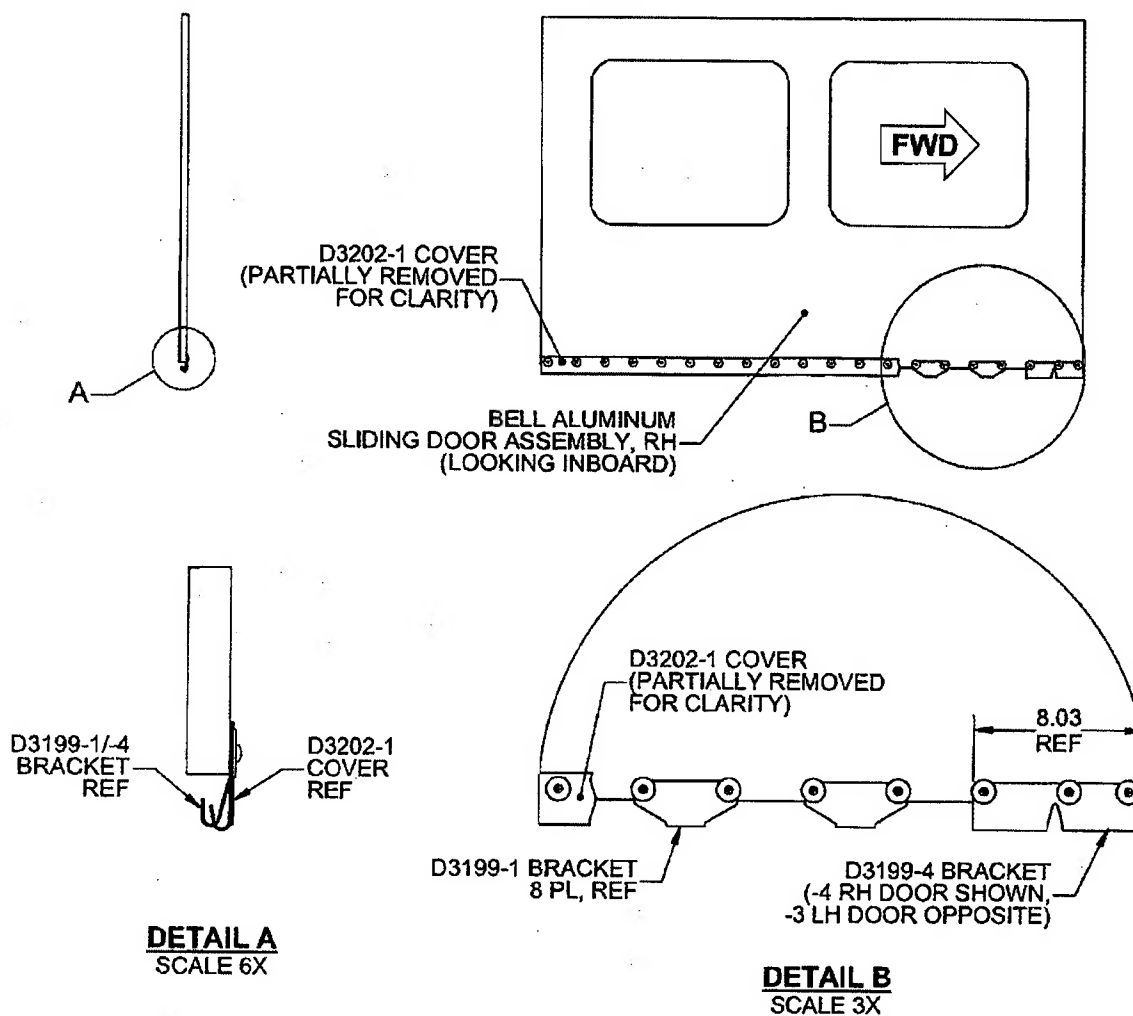
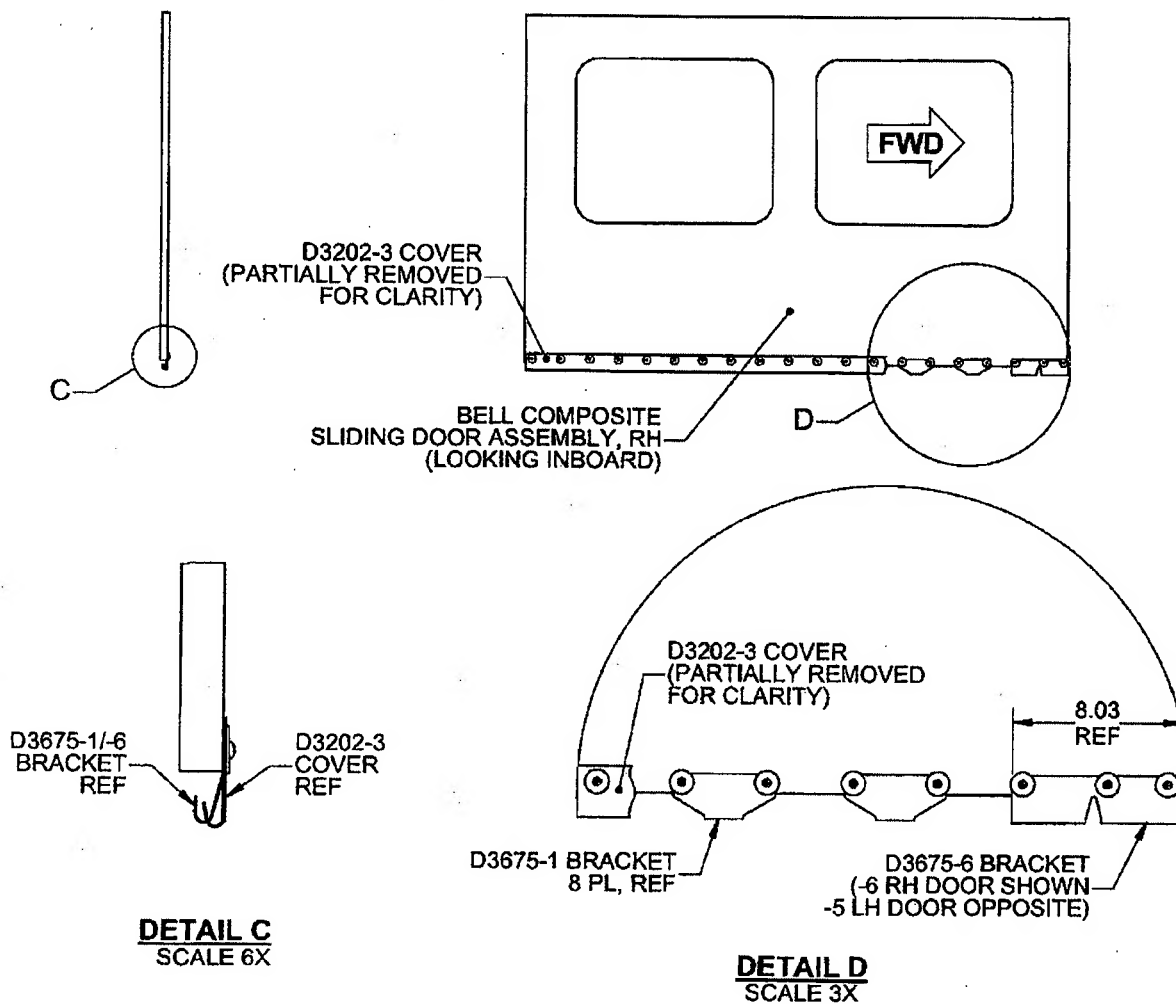

FIGURE 1: D3199-3/-4 BRACKET INSTALLATION ON ALUMINUM DOORS
FIGURE 2: D3675-5/-6 BRACKET INSTALLATION ON COMPOSITE DOORS
- 3) Install the D3199-3/-4 or D3675-5/-6 bracket as applicable in lieu of the removed -1 bracket. Refer to Figure 1 Sheet 2 (aluminum doors) or Figure 2 Sheet 3 (composite doors).